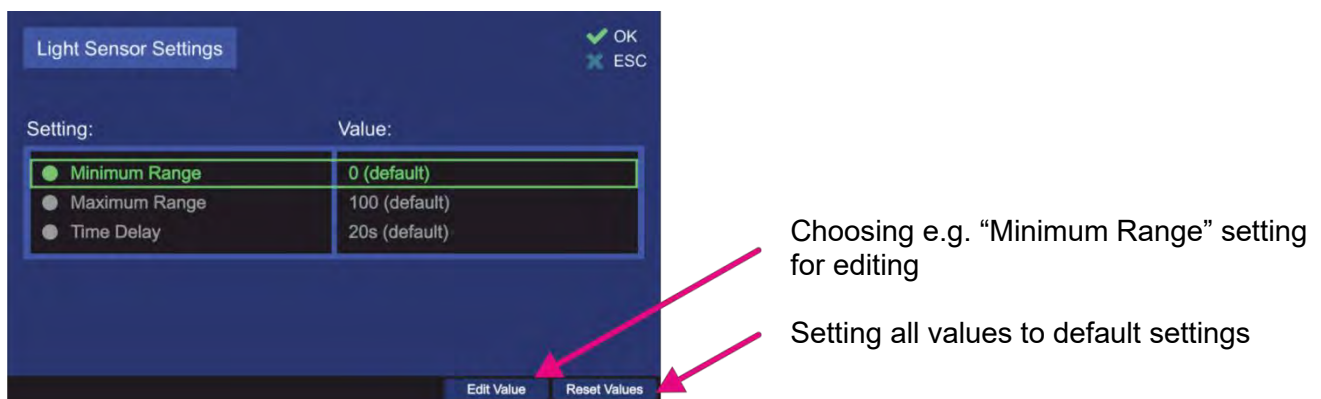

Figure 83. Light sensor settings
- o Leaving the top level dialog (s. Figure 83) always press “OK” for the second time (after confirming the actual setting), otherwise, the changed settings will not be adopted.